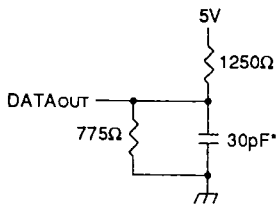

Figure 1. Output Load
Output Load	See Figures 1, 2 & 3
1. Transition is measured ±50mV from low or high impedance voltage with load (Figures 1, 2 and 3).
1. Transition is measured ±500mV from low or high impedance voltage with load (Figures 1, 2 and 3).